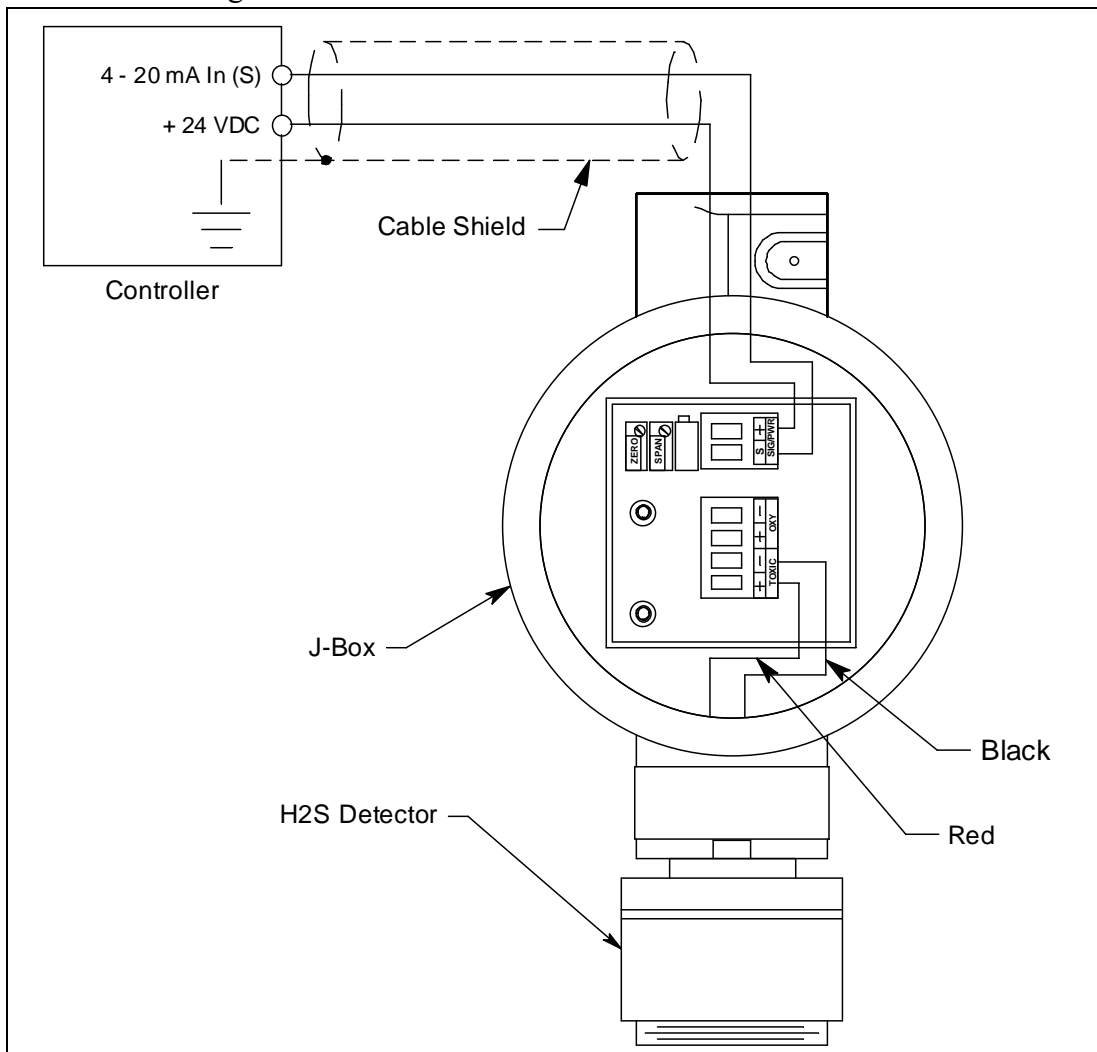

Figure 4: Wiring the H₂S Transmitter to a Controller
4. The detector leads are factory wired. Verify that the detector leads are wired to the amplifier's detector terminal strip as shown in Figure 4.
7. Pull out the controller terminal strip and connect the two wires to the terminal strip as follows (see Figure 4).
11. Connect the wires to the applicable detector/transmitter terminal strip at the controller as shown in Figure 4.
8. Connect the detector leads to the appropriate detector terminal strip terminals. Connect the red wire to the terminal labeled TOXIC + and the black wire to the terminal labeled TOXIC -. See Figure 4 for the detector wiring connections to the amplifier.
9. Install the detector and controller terminals strips into their sockets on the new amplifier as shown in Figure 4. If controller leads or detector leads were removed during this procedure, refer to Figure 4 for the detector and amplifier connections.